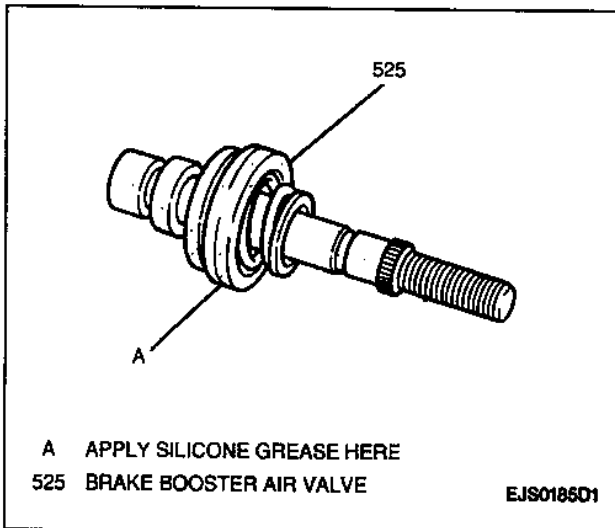

Figure 18—Applying Silicone Grease to Brake Booster Air Valve
7. Lubricate brake booster air valve with Lubriplate® lubricant, GM P/N 1052349, or equivalent, before installation into brake booster piston (Figure 18).